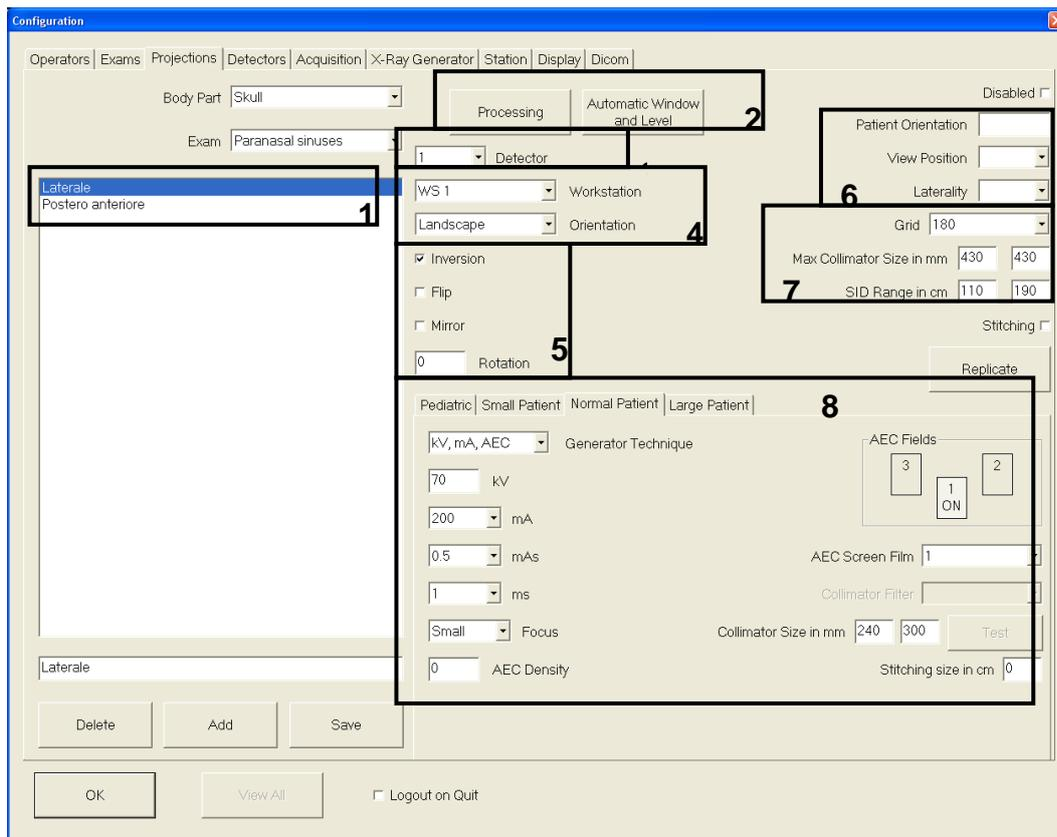

Figure 13: tab Projection of Configuration Menu.
Selecting the projection in the central white window (box number 1 in figure 4), it will be possible to delete it or to configure it through the tools that are in the right (boxes from n°2 to n°8 in figure 13). The tools allow to configure:
- the software elaboration on the image (Processing) and the area for the automatic window and level (Automatic Window and Level) on the image (box number 2 in figure 13). They are applied after the acquisition of the image and the operator can not modify or delete them;
- the detector, if there are more than one detector (box number 3 in figure 13) not applicable;
- the workstation and the type of orientation (box number 4 in figure 13), not applicable;
- other software elaboration like Inversion of Grays, Flip, Mirror and Rotation (box number 5 in figure 13). They are applied after the acquisition of the image and they are not removable. They depend from the orientation of patient and detector and it is necessary to make some tests with a oriented phantom to configure them;
- patient orientation (box number 6 in figure 13) PA, AP, LAT, OBL;
- grid, max collimator size, SID range, Stitching and Tomo exam (box number 7 in figure 13) not applicable;
- radiological parameters for every patient size (from pediatric to large patient) that will be visualized by the operator as default parameters (box number 8 in figure 13). The operator can change these parameters when he perform an exam.